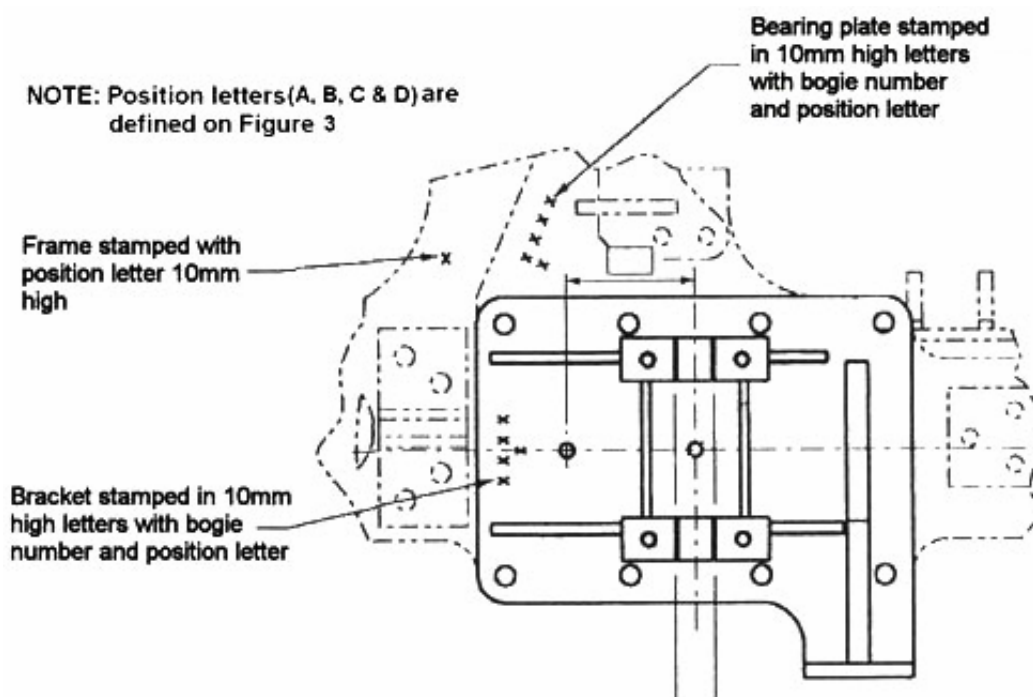

Figure 1: Method of Marking Brackets and Bearer Plates
- A1.1 Identify the position of each bracket and bearing plate, with the bogie serial number and bracket position by stamping as shown in Figure 1.